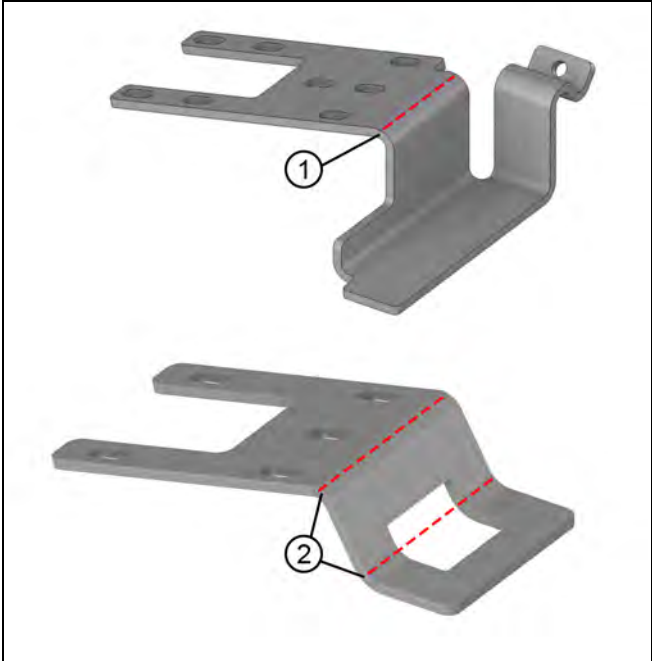

Figure 171
3. Any Non-rectangular Polygon with a rough opening less than 1/2" will likely require that you modify the bracket at the sloped head jamb to allow for clearance. Bend the brackets at the locations indicated in Figure 171 below.